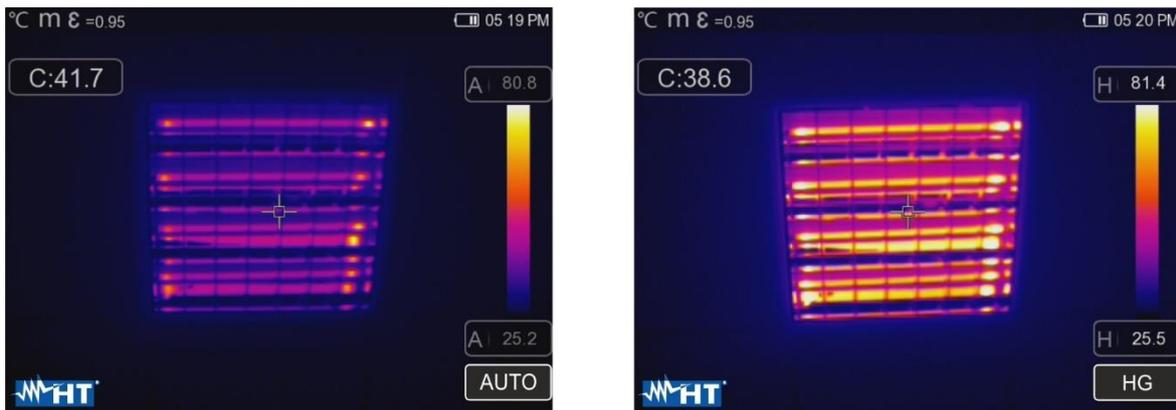

Fig. 46: Setting the Automatic and Histogram modes
- **Histogram (HG)** mode → the minimum and maximum temperature levels of the object framed on the display are always defined automatically by the instrument, as in the Auto mode, but in this case, the areas of the image in which temperature values are very different from the values of adjacent areas are highlighted. The relationship between temperature and colour of the palette is **non-linear** according to a histogram algorithm. This mode emphasizes image display in very dark working environments.
1. Press key or touch the icon “AUTO” found at the bottom on the right side of the display. The screens in Fig. 46 show the selection of modes “AUTO” and “HG”.